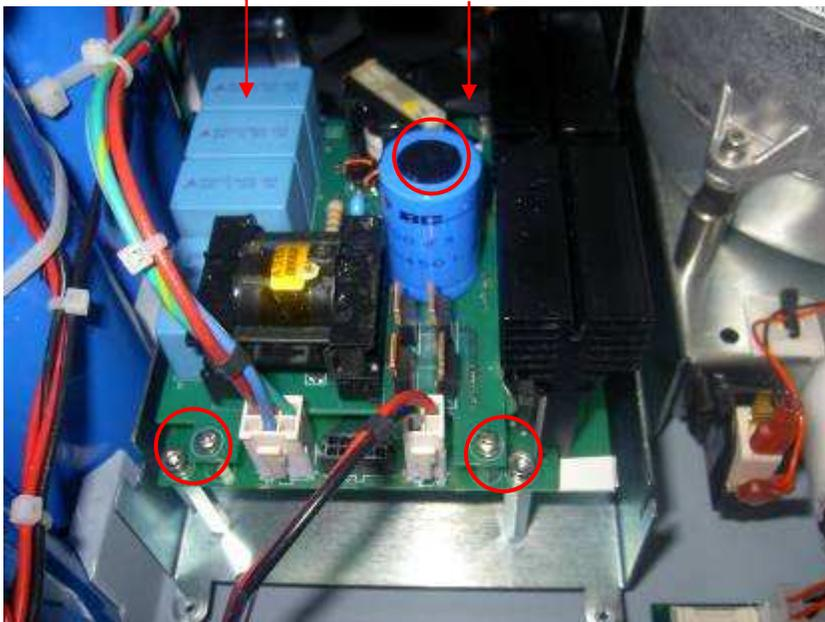

Figure 132
6. Remove the allen screws securing the PS Charger to the chassis (Figure 132).